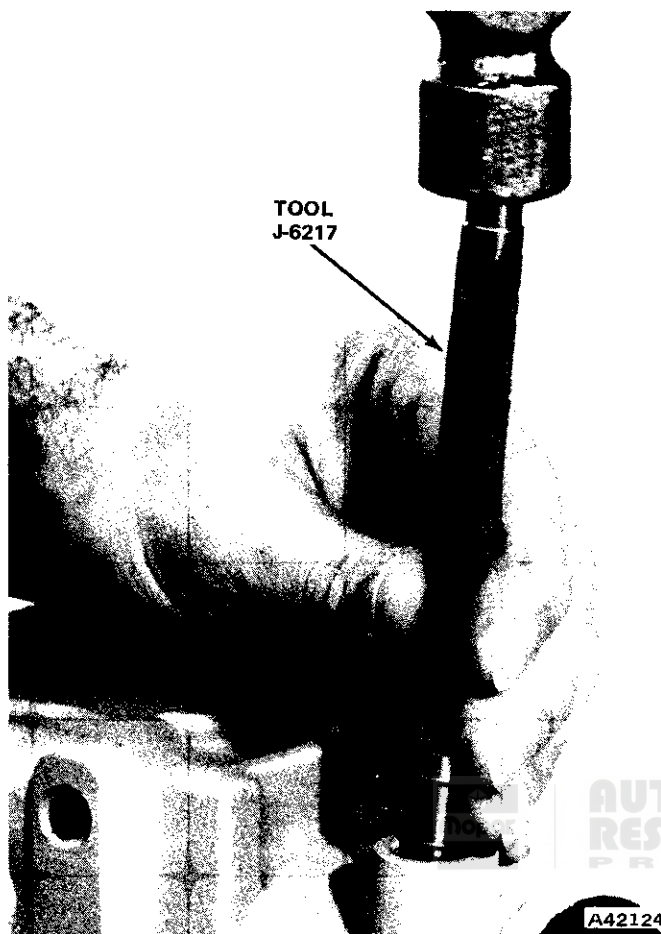

Fig. 2L-22 Hose Connector Seat Installation
(1) Lubricate housing bores and all replacement bearings and seals with power steering fluid.
(2) Install pitman shaft needle bearing using tools J-8092 and J-21553 (fig. 2L-18). Install bearing until approximately 1/32 inch (0.79 mm) below shoulder in housing bore.
(3) Install single lip seal and backup washer (fig. 2L-17). Seat washer and seal using tool J-21553. Install seal and washer only far enough to provide clearance for next seal and washer, steel washer and retaining ring, and to provide small clearance between seals.